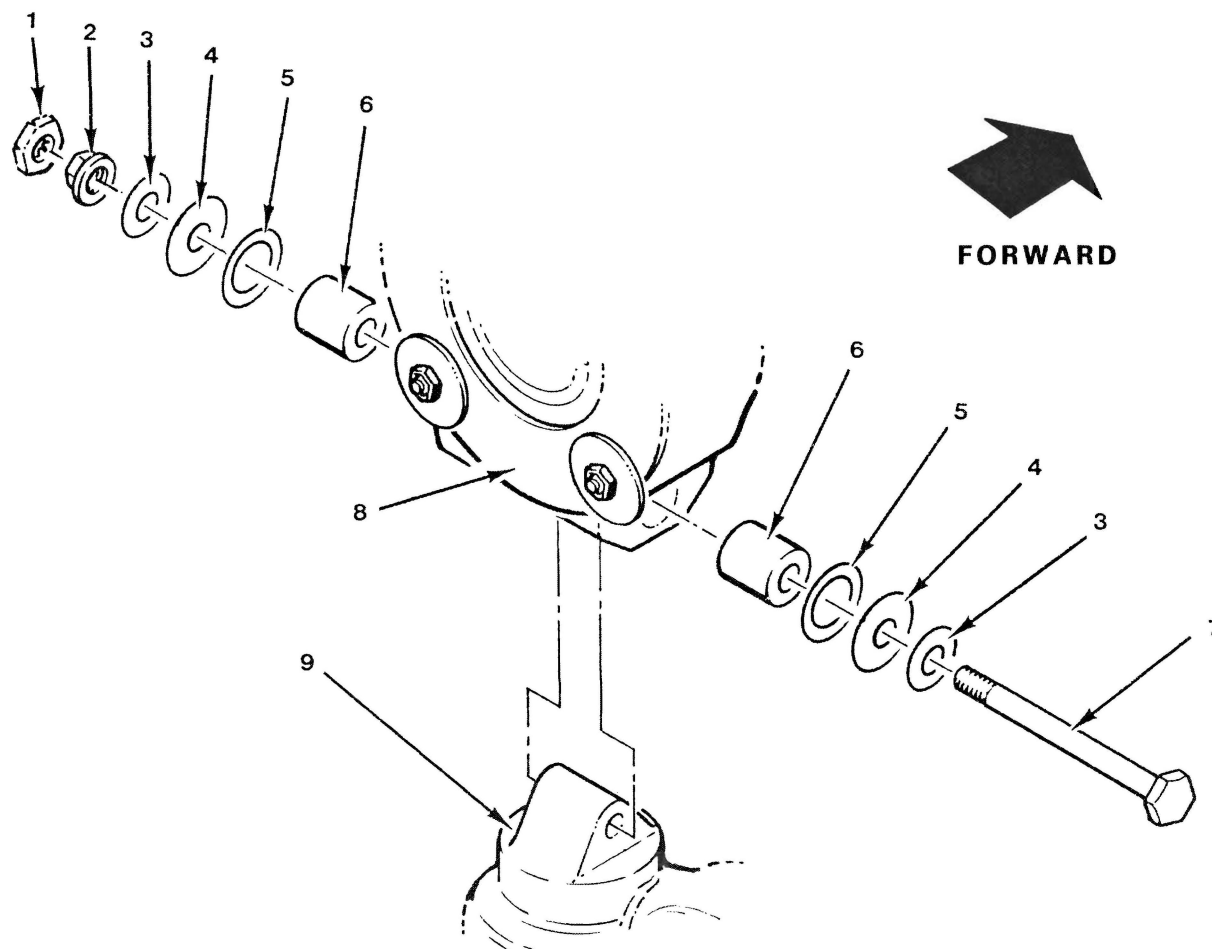

FIGURE 7-14 ACTUATOR ASSEMBLY INSTALLATION
- d) Connect actuator gearmotor housing to C184 bearing per Figure 7-14. Standard torque bolt per Section 1.320, install & torque palnut, and torque stripe per Figure 2-1.